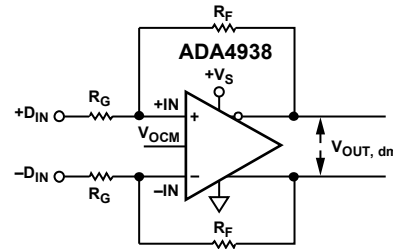

Figure 59. ADA4938-1/ADA4938-2 Configured for Balanced (Differential) Inputs
The effective input impedance of a circuit depends on whether the amplifier is being driven by a single-ended or differential signal source. For balanced differential input signals, as shown in Figure 59, the input impedance ( $R_{IN, dm}$ ) between the inputs (+DIN and -DIN) is simply  $R_{IN, dm} = 2 \times R_G$ .
**Table 10. Differential Ground-Referenced Input, DC-Coupled; See Figure 59**